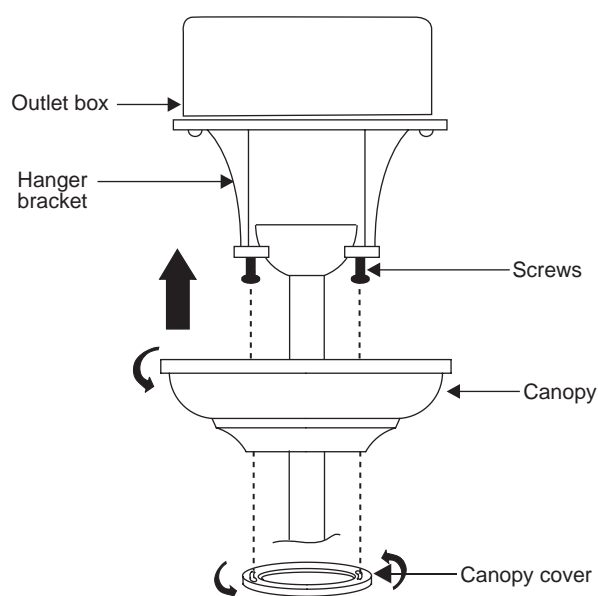

Figure 15
Step 2. Slide the canopy up to ceiling and over the two screws on hanger bracket. Rotate canopy clockwise, next, while holding the canopy with one hand, slide the canopy cover over the screws and rotate clockwise until tight. **Note:** adjust the canopy screws as necessary until the canopy and canopy cover are snug. (Fig.15)